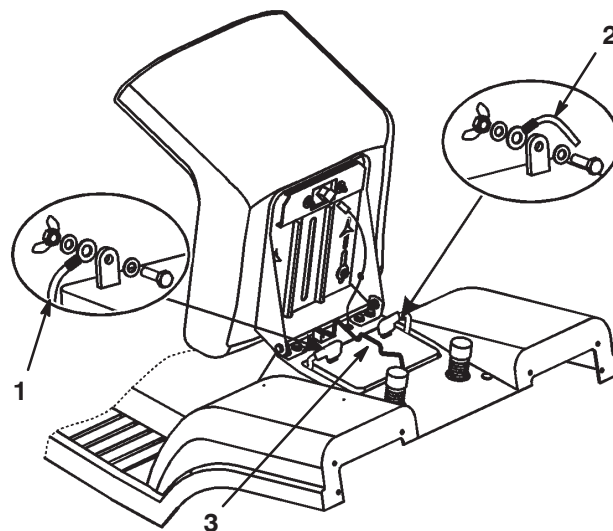

Figure 24
7. Disconnect the negative (black) ground cable from the battery post (Fig. 24).
9. Disconnect the positive (red) cable from the battery post (Fig. 24).
10. Remove the battery hold down rod (Fig. 24).
1. Place the battery into the chassis with the battery posts toward the front of the tractor (Fig. 24).
2. Secure the battery in the chassis with the hold down rod (Fig. 24).
3. Using the bolt and wing nut, connect the positive (red) cable to the positive (+) battery post (Fig. 24). Slide the rubber cover over the battery post.
4. Using the bolt and wing nut, connect the negative (black) cable to the negative (–) battery post (Fig. 24). Slide the rubber cover over the battery post.